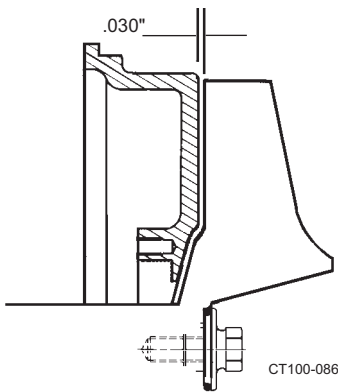

**Figure 39 - Shim Placement**
6. Temporarily put 0.03" shims between the impeller vane and back plate to a preset clearance. **Be sure to remove the shims before final assembly** (Figure 39).